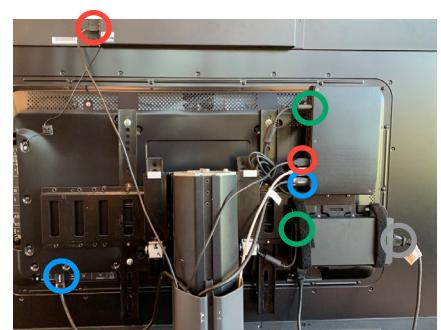

Figure 13 - Plug in the Cords
Step 15 Connect cables from computer to monitor as shown in color-coded Figure 13.